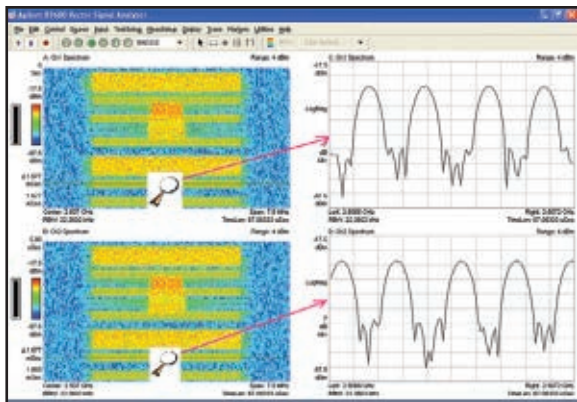

Figure 2 The distinct MIMO channel training subcarriers in LTE.
Figure 2 shows the spectrograms of two signals measured directly from LTE transmitters, and the zoomed-in spectral component for one of the training symbols. The LTE reference signal (RS) subcarriers can clearly be seen to be using different frequencies. Unlike the WiMAX pilots, the RS is only transmitted every 3rd or 4th symbol. The power level of all the subcarriers is the same, and their phase and timing relationship is known, which means it is possible to create a vector representation of the channel. This in turn provides the coefficients required to separate the data streams.